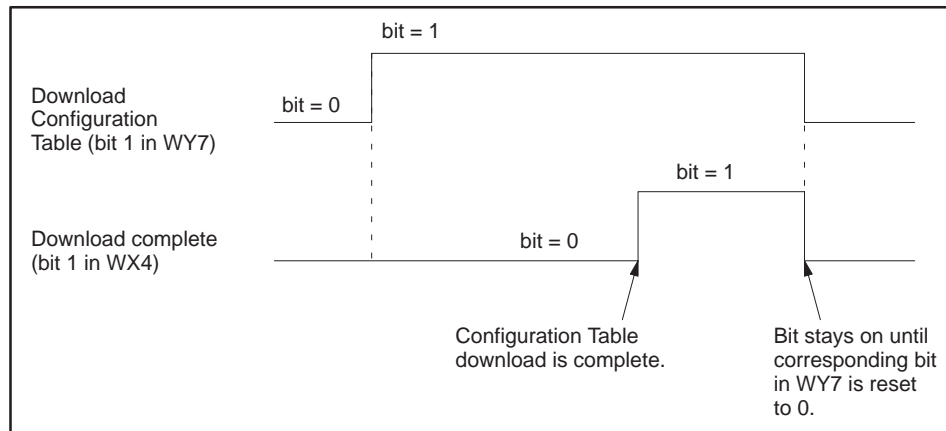

Figure 3-9 Timing for a Forced Table Download
- While the module is in RUN or CALIBRATE mode, you can force a download by setting bits in WY7 to 1. Bit 1 automatically downloads the Configuration Table. Bits 2-5 download Setpoint Tables. When the download is complete, the module sets corresponding bits (1– configuration, 2 – 5 setpoint) in WX4. The acknowledge bits in WX4 are not cleared until the corresponding command bit in WY7 returns to 0. See Figure 3-9.